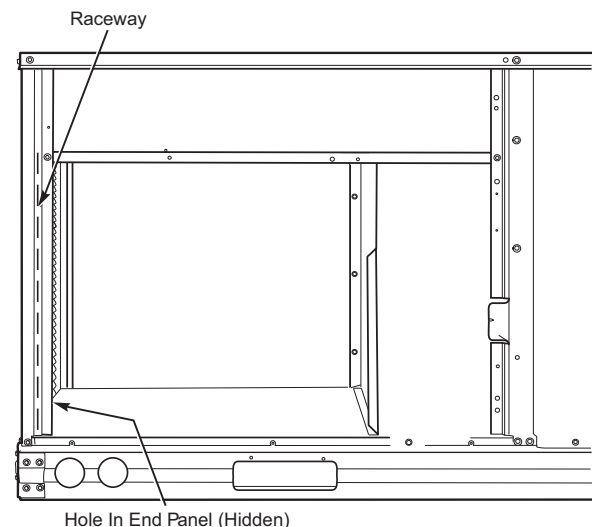

Fig. 31 — Field Control Wiring Raceway
The 50GC unit requires an external temperature control device. This device can be a thermostat (field-supplied) or a SystemVu™ controller (available as factory-installed option, for use on a Carrier Comfort Network® or as a stand-alone control). All field added wire must comply with UL and local NEC standards. Use raceway shown in Fig. 31 to help with compliance as needed.
Pass the thermostat control wires through the hole provided in the corner post; then feed the wires through the raceway built into the corner post to the control box. Pull the wires over to the terminal strip on the upper-left corner of the Controls Connection Board. See Fig. 31.
2. Feed wires through the raceway built into the corner post (see Fig. 31) to the 24v barrier located on the left side of the control box. The raceway provides the UL-required clearance between high-voltage and low-voltage wiring.
2. Feed wires through the raceway built into the corner post (see Fig. 31) to the 24-v barrier located on the left side of the control box. The raceway provides the UL-required clearance between high-voltage and low-voltage wiring.